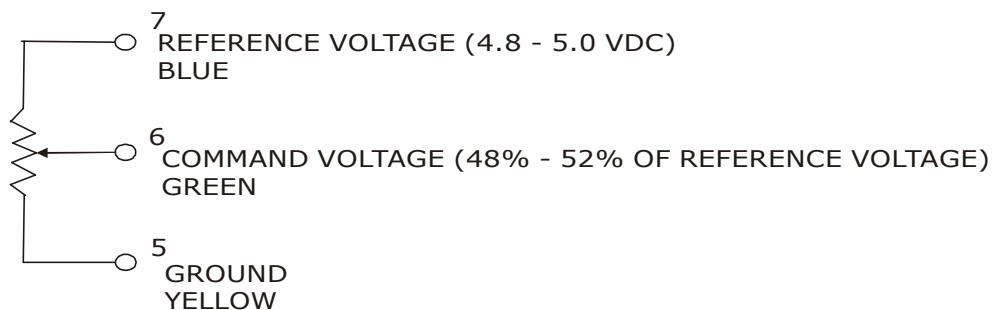

Figure 3: Control Head at Neutral (Right Hand)
2. When the Control Head lever is at the Neutral/Idle position, the voltage at pins 5 & 6 should be 50 percent +/- 2 percent of that measured at 5 & 7 (VREF) (yellow & blue wires). See Figure 3: